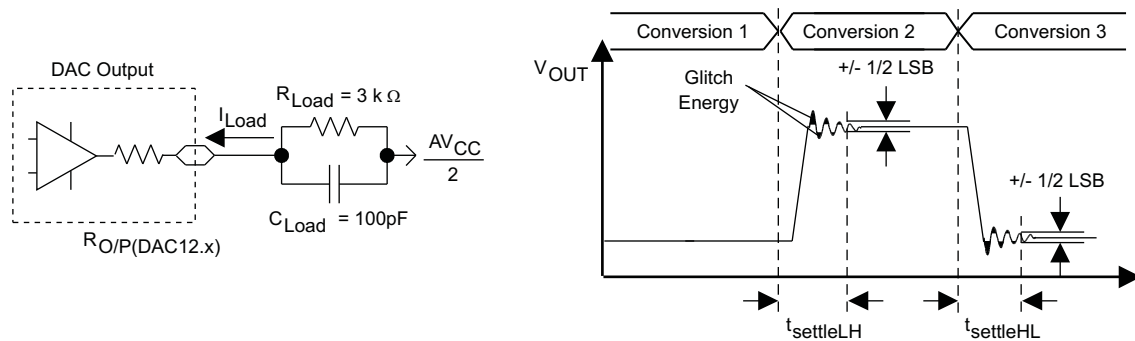
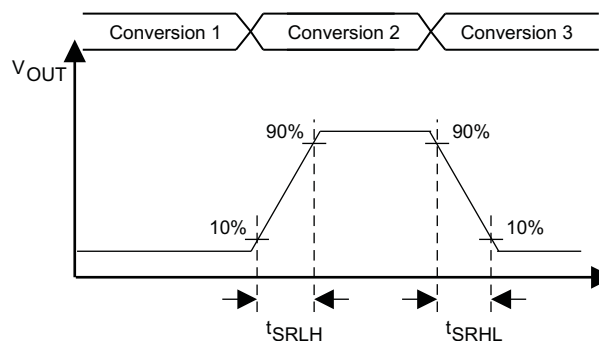

Figure 5-24. Settling Time and Glitch Energy Testing
Figure 5-25. Slew Rate Testing
$V_{ref} = V_{CC}$, $DAC12IR = 1$, over recommended ranges of supply voltage and operating free-air temperature (unless otherwise noted) (see Figure 5-24 and Figure 5-25)
(1) R_{Load} and C_{Load} connected to AV_{SS} (not $AV_{CC}/2$) in Figure 5-24.
(2) Slew rate applies to output voltage steps ≥ 200 mV.